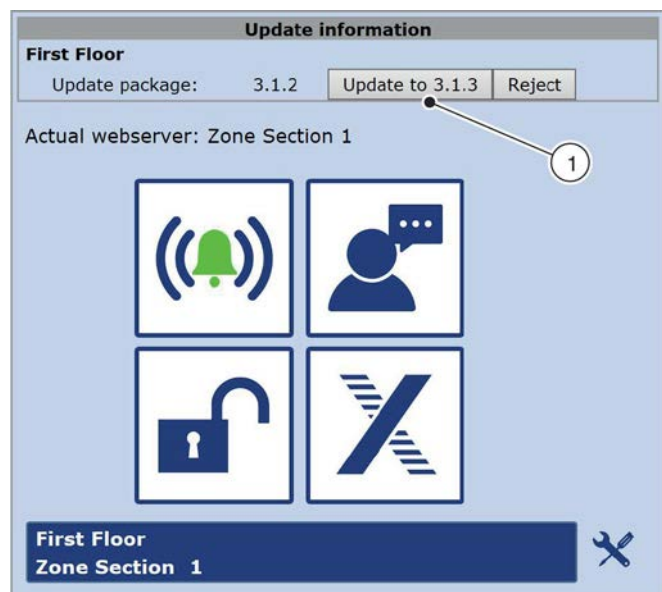

Fig. 70: Firmware update
⇒ The screen in Fig. 70 with the number of the latest firmware version displays.
4. ▶ Click on the button (Fig. 70 /1).